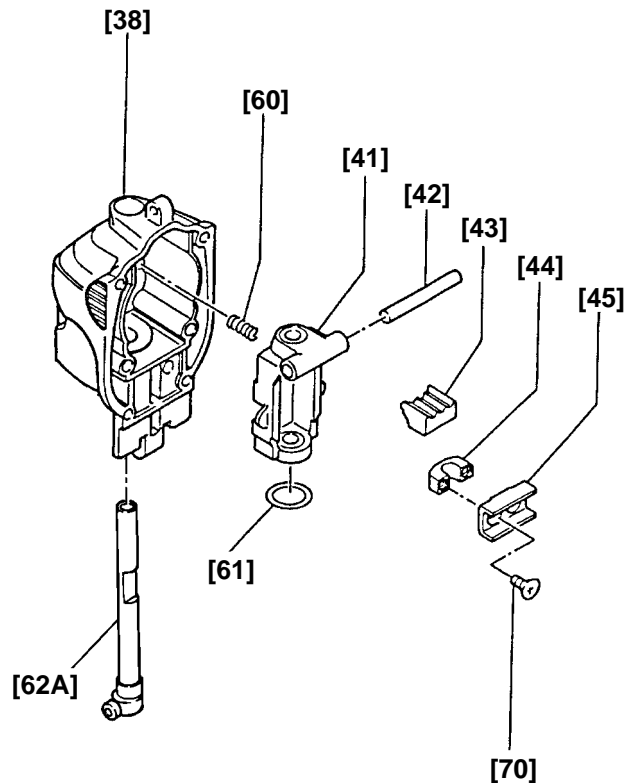

Fig. 5
(4) Removal of the Plunger [62A] and the Plunger Holder Ass'y [41] from the Upper Cover [38] (Fig. 5)